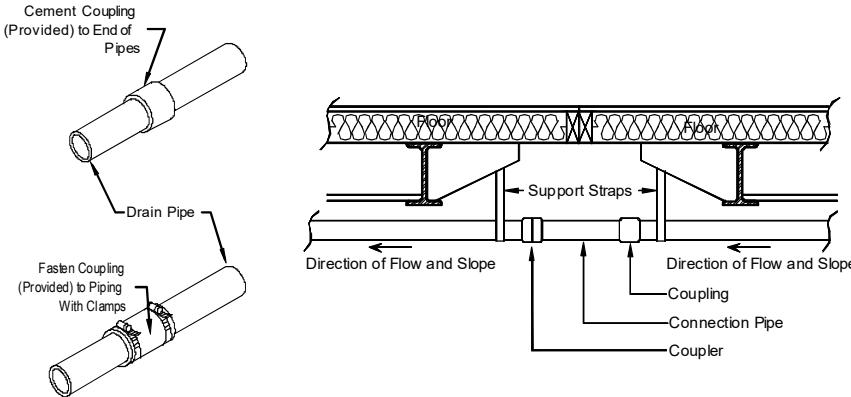
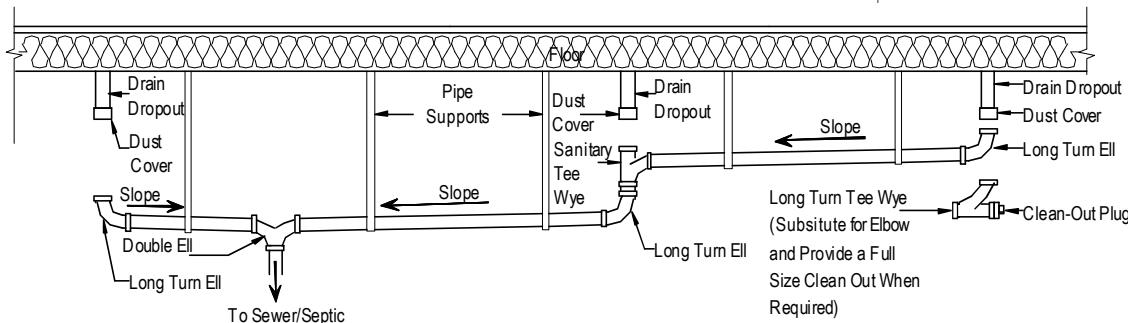

Figure 64. Drain crossover connection
Figure 65. DWV system
2. **Assemble pipes.** Using the drain schematic drawing provided with the home, begin assembling the DWV system starting at the location farthest from the sewer/septic connection and working towards the outlet, fastening the pipe with cement or adjustable screw-clamp connectors, if provided (Figure 64). As the system is assembled, support the piping with temporary blocking. Unless otherwise noted on the schematic diagram, provide a minimum 1/4 inch per foot slope towards the sewer/septic using a plumber's level. Where a slope of 1/4 inch per foot cannot be maintained, use a minimum slope of 1/8 inch per foot and install of a full-size clean-out at the uppermost point of the run (Figure 65).
5. **Install supports.** Install permanent drain line supports at a distance of four feet o.c. or less (see Figure 64, Figure 65, Figure 66, and Figure 67).